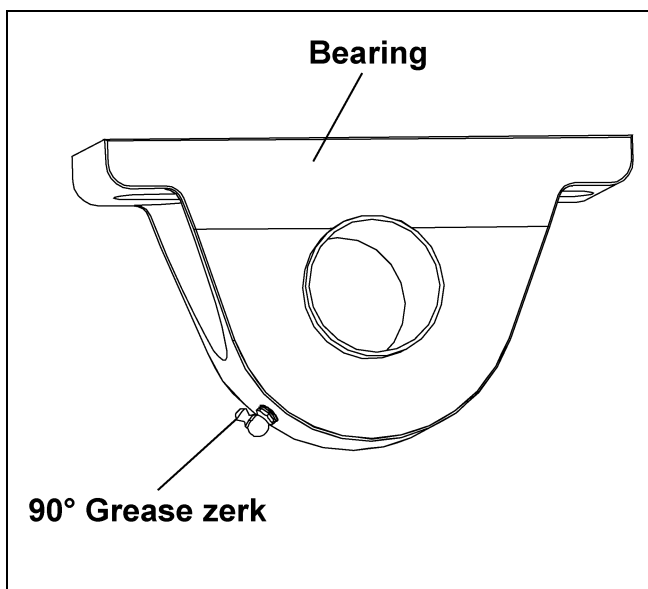

Figure 5I
- B. Replace standard grease zerks with 90° grease zerks on both bearings. Make sure the 90° grease zerk is turned as shown in Figure 5I, so the zerks are accessible from the center of the tractor drive stand.
- D. Attach Bottom Chain Guard Weldment to Tractor Drive Stand using 3/8" x 1-1/4" HHCS bolts, 3/8" split lock washers, and 3/8" hex nuts. (See Figure 5I on Page 30.)